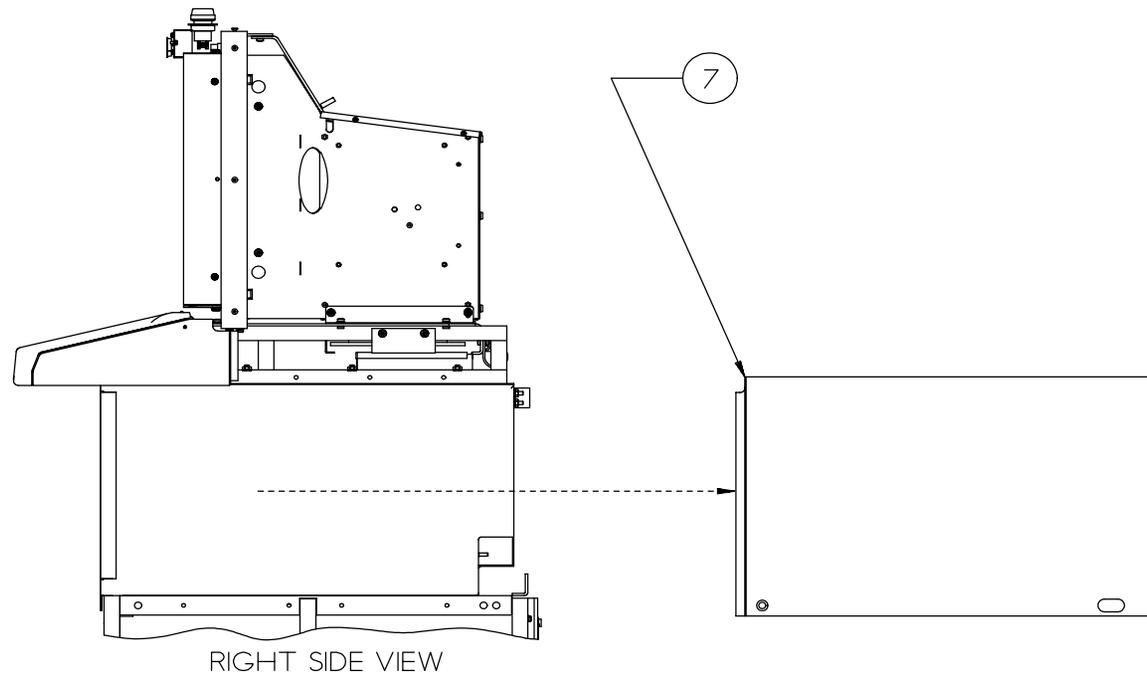

Figure 22
7. Remove the upper-right side cover. See Figure 22.